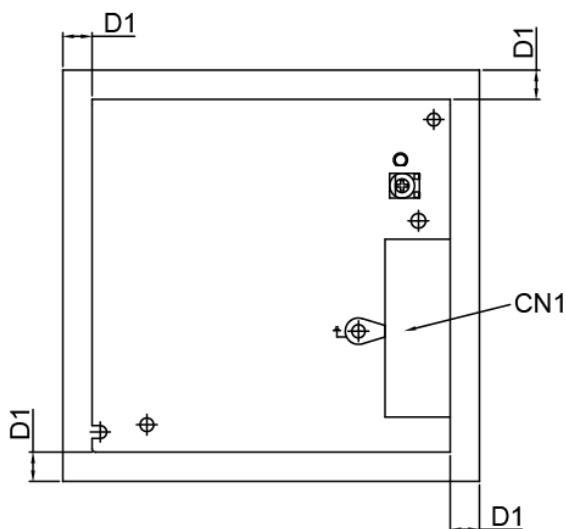

Fig. 3 Assembly Reference
- **PM□-5V35W1AA / PM□-5V35W1AG:** Use flexible cable (stranded or solid) of AWG No. 18-12. User should calculate and select the suitable wire specification (type/quantity/diameter) according to actual output current. The torque at the Connector shall not exceed 13Kgf.cm. The insulation stripping length should not exceed 0.275" or 7mm (Refer to Fig. 3).